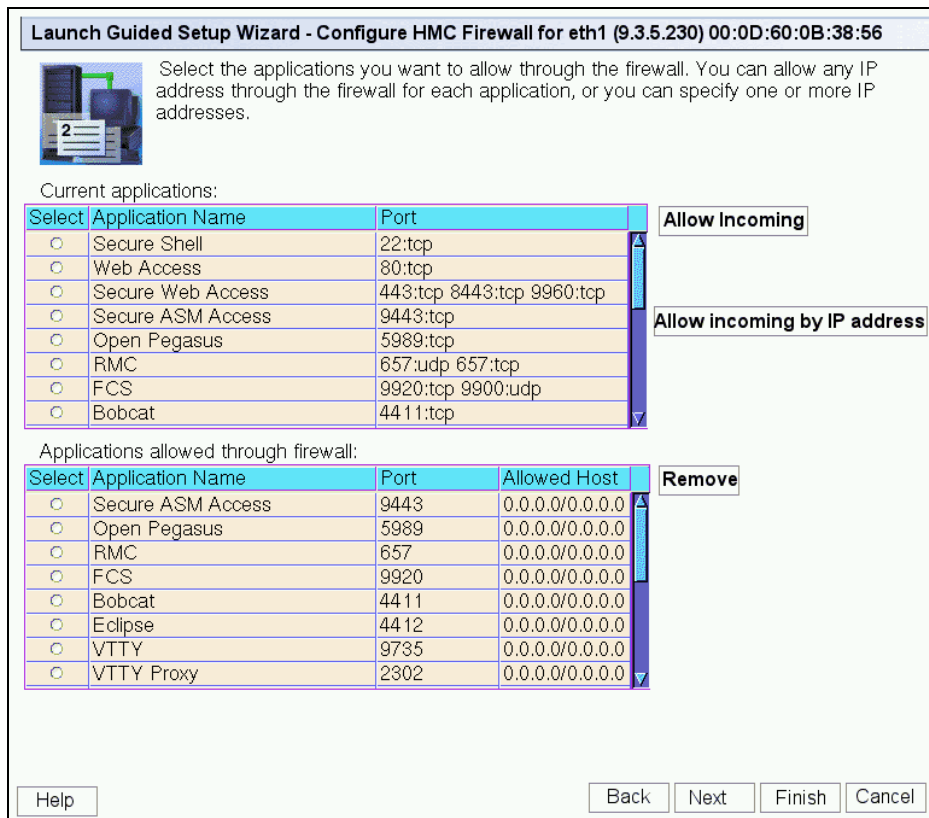

Figure 3-26 Launch Guided Setup Wizard - Configure HMC Firewall for eth1
19. The Launch Guided Setup Wizard - Configure HMC Firewall for eth1 panel displays then (see Figure 3-26). In the top panel are listed all the available applications that are on the HMC, and in the bottom panels are listed all applications that available to open network through the HMC firewall.